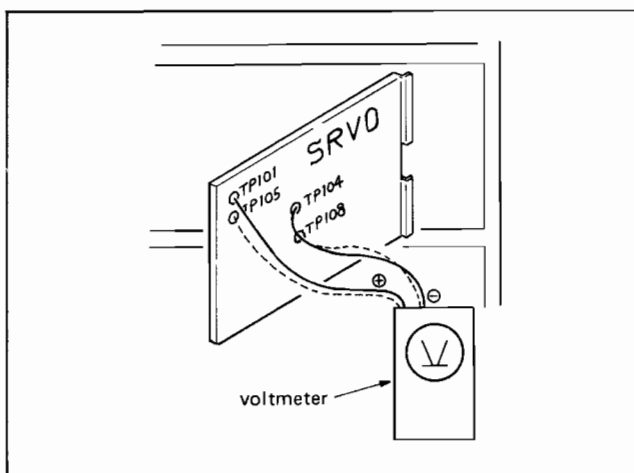

Fig. 5-1-2
- Connect the $\oplus$ terminal of the voltmeter to TP101 (TP105) on the SRVO board and the $\ominus$ terminal to TP104 (TP108). See Fig. 5-1-2.